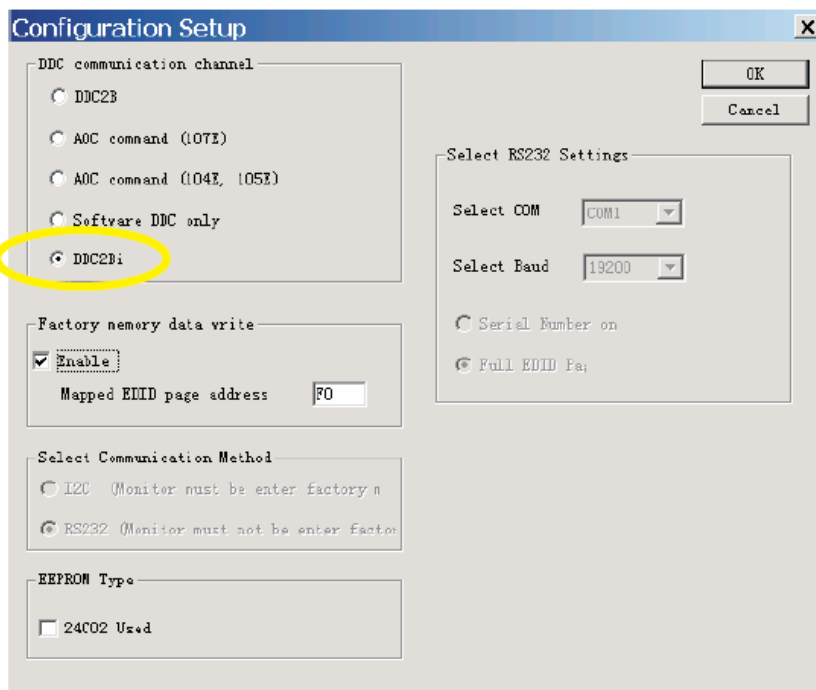

Fig. 23
1. Configuration should be as Fig. 23. And press OK.